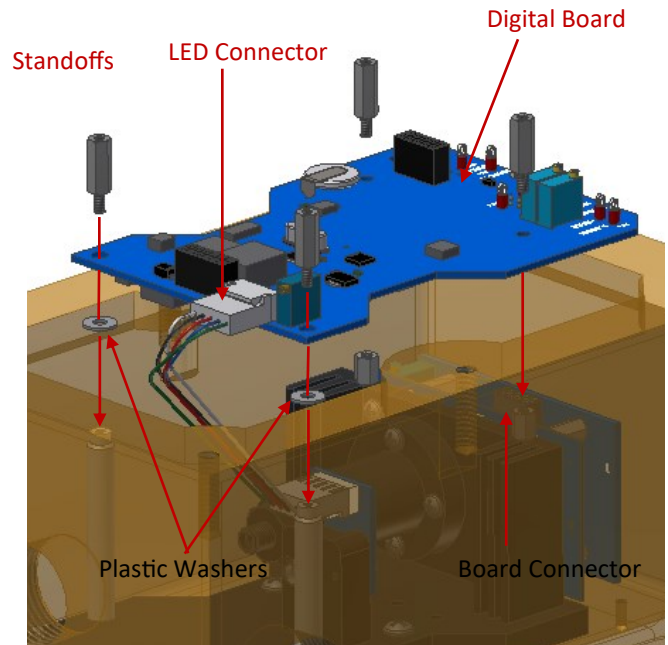

Figure 1.3.8
8. Connect the LED wiring assembly to the OID digital board assembly. Connect the digital board with the connector on the photodiode assembly. Make sure the board is aligned with the round standoffs and the standoffs on the photodiode assembly. Secure it using four (4) 4-40 x 1/2" M/F standoffs with a small amount of thread lock. See figure 1.3.8